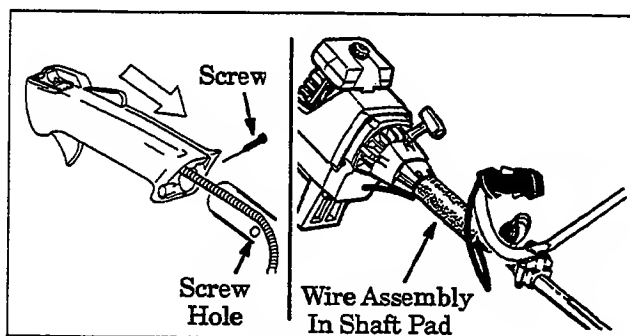

Figure 4
- Remove the rear screw from the trigger housing. Figure 4.